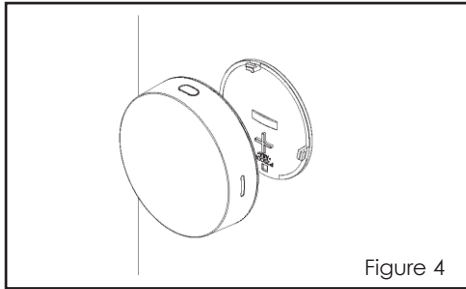

Figure 4
1. Rotate the sensor in counterclockwise and detach it from the mounting bracket. (Figure 4)